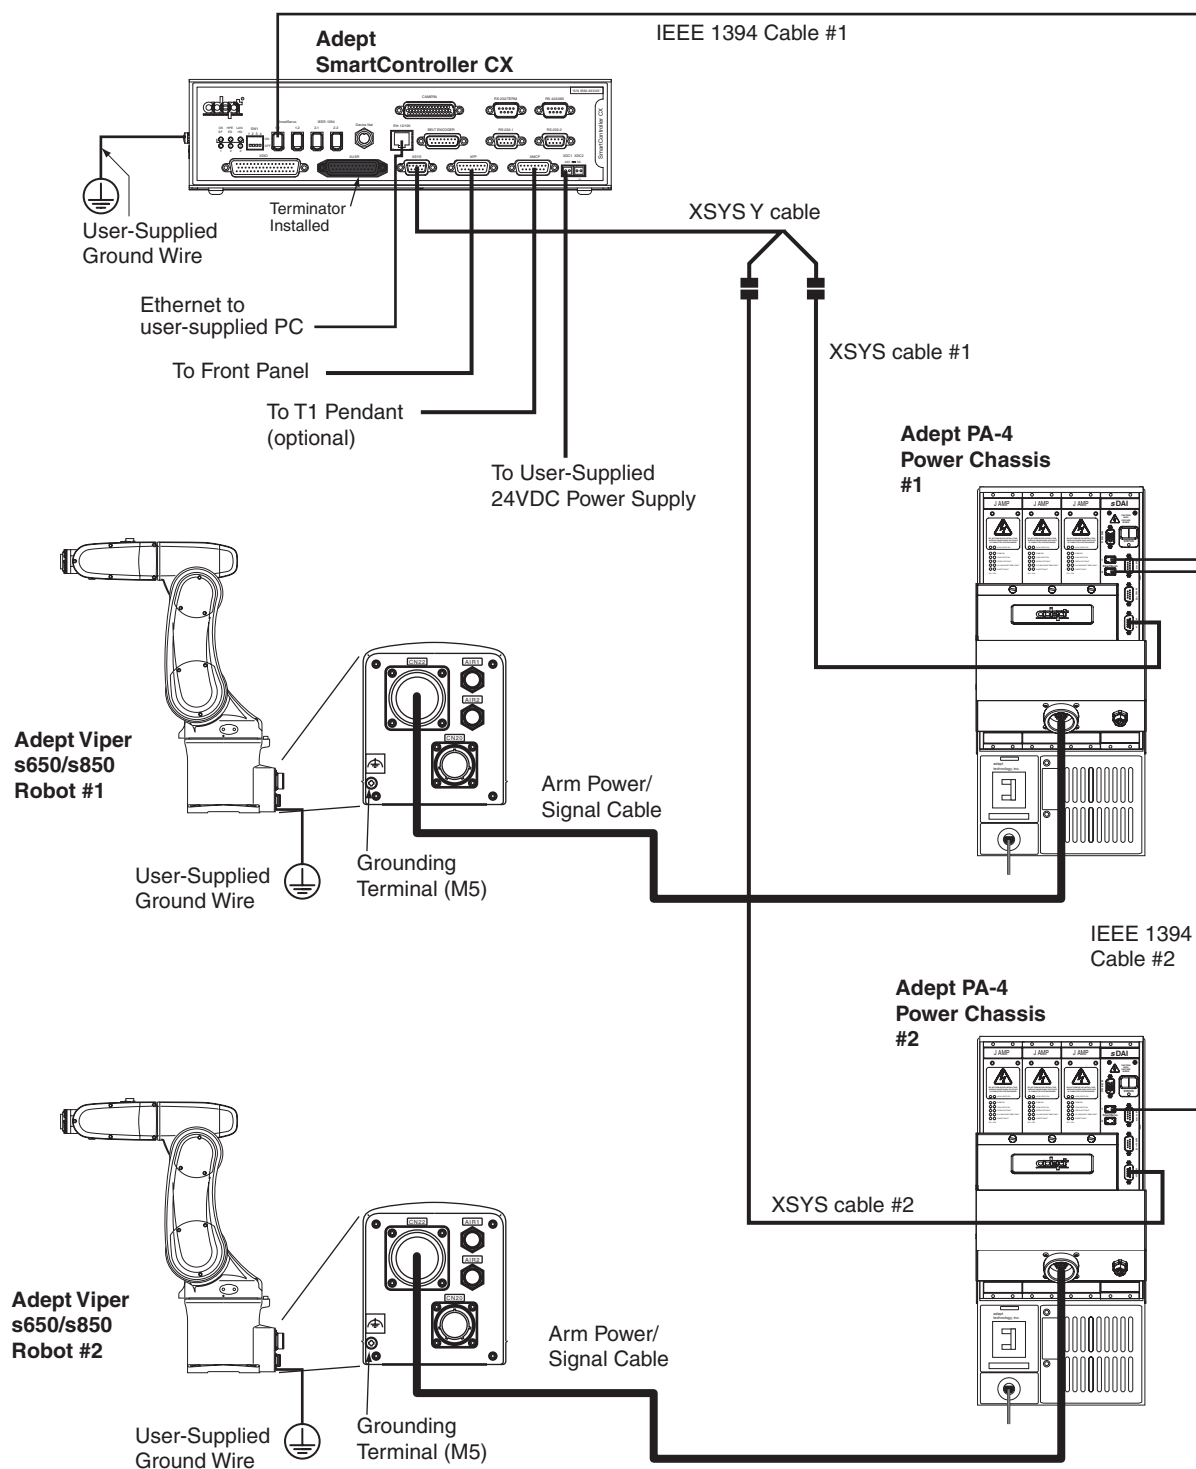

Figure 10-1. System Cable Diagram for Dual Adept Viper Robots
4. Install the system cables according to the system cable drawing.	See Figure 10-1 on page 86 .
1. Install the robots and related equipment as per Table 10-1 on page 85 and the diagram in Figure 10-1 on page 86.
Verify that the system has been installed according to Figure 10-1 on page 86, and that the system configuration is complete.